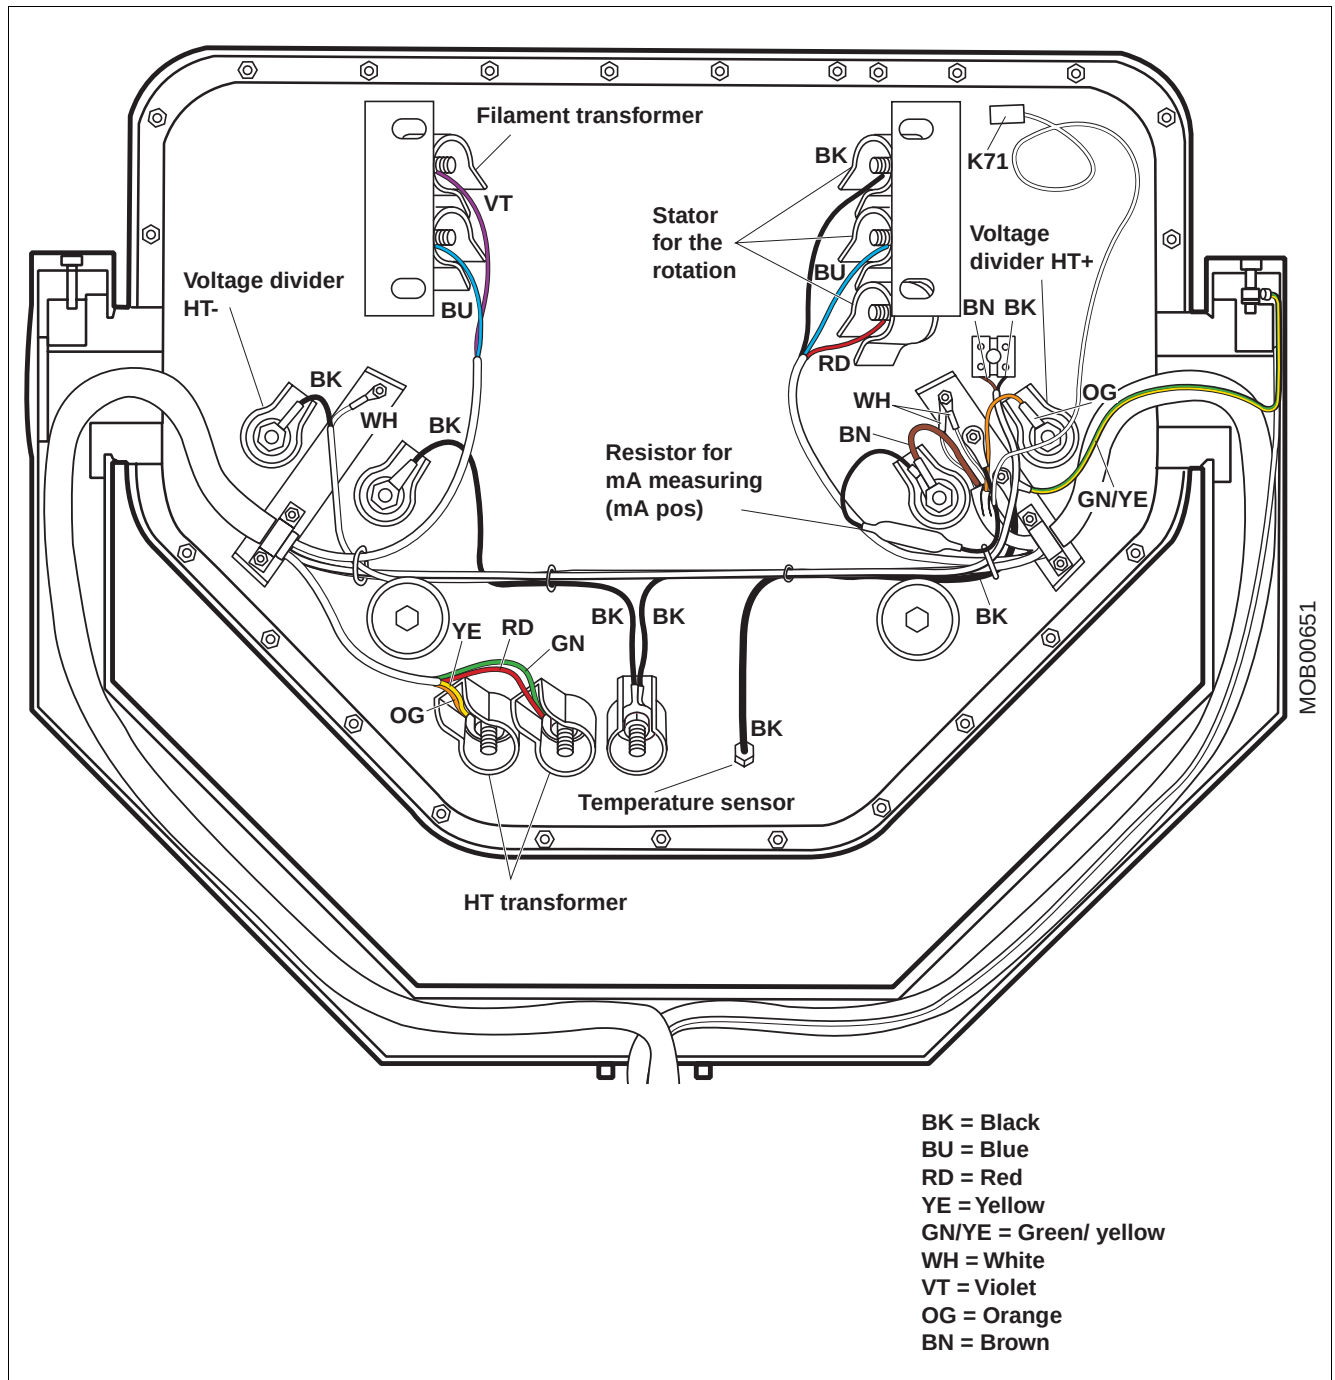

Fig. 18
- Reconnect all electrical connections according to Fig. 18.